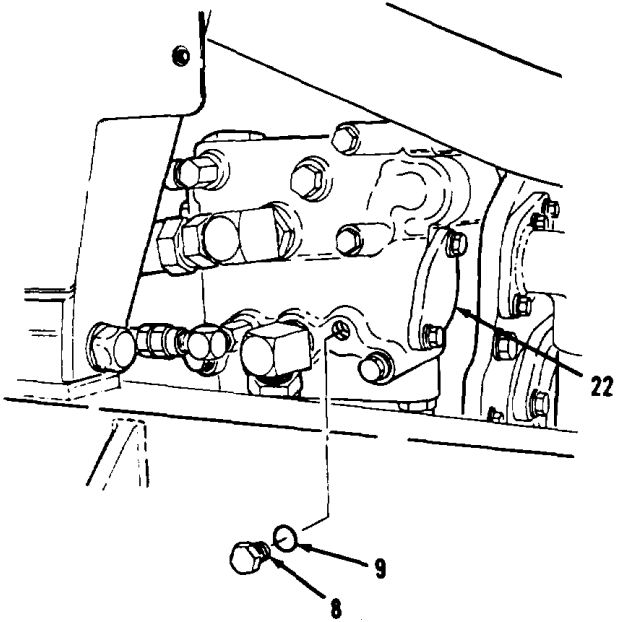

Figure 5-42.
- 19. Remove plug (8) and preformed packing (9) from valve assembly (18, Figure 5-42). Discard preformed packing (9).
- 21. Install new preformed packing (9) and plug (8).